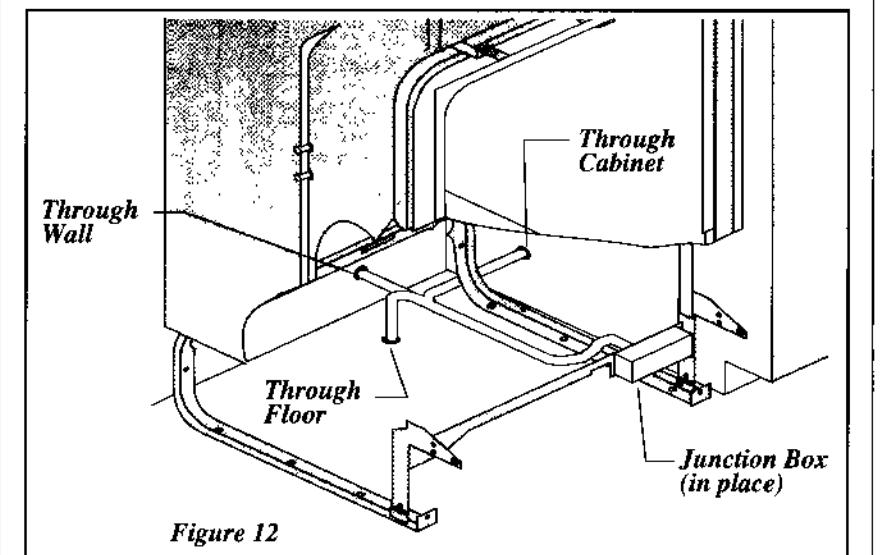

Figure 12
- Remove junction box cover and pull house wiring into junction box. See Figures 12 and 13.